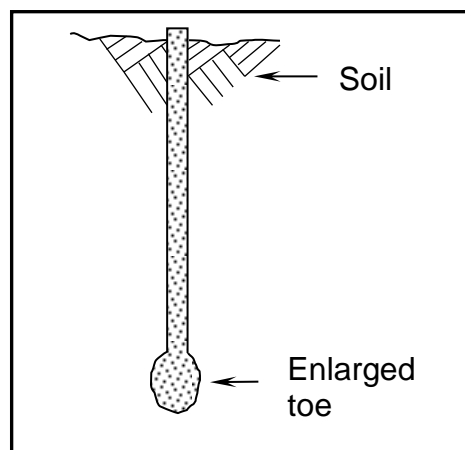

FIGURE 2.6
- 2.6 FIGURE 2.6 below is a drawing of a pile. Study the drawing and answer the questions that follow.
- 2.6.1 Name the type of pile in FIGURE 2.6. (1)